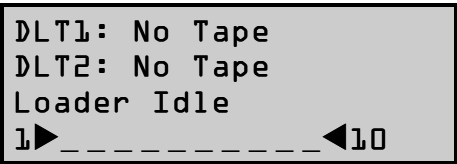

Figure 2-4 Default Screen
1. Turn the system on. Wait until the Power-On Self Test terminates and the default screen appears on the display. Figure 2-4 shows a typical default screen. Yours may vary depending on the number of drives in your system.
1. As shown in Figures 2-4 through 2-6, navigate from the Default Screen through the Main Menu to the Configure Menu.